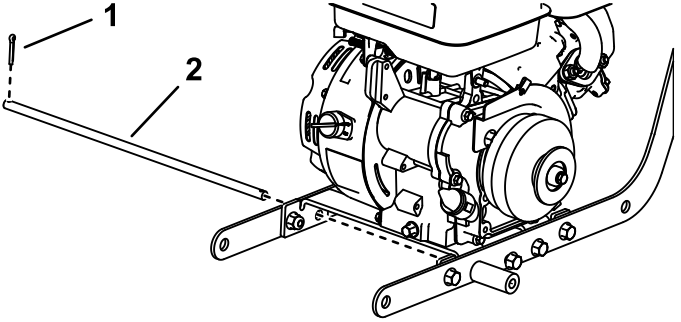

**Figure 5**
6. Install the engine shroud as shown in Figure 5.